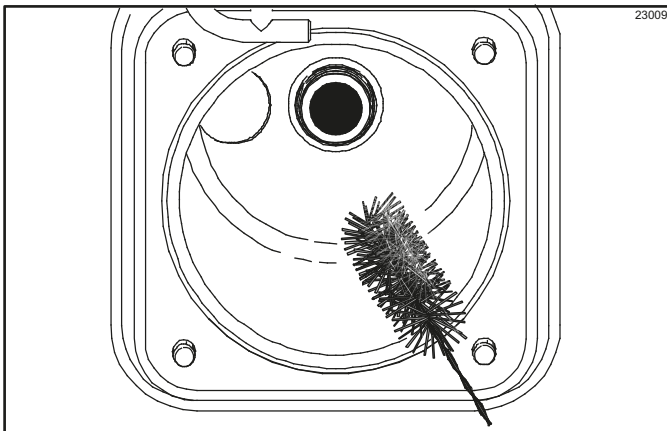

Figure 6-74
5. Return to the machine with a small amount of cleaning/sanitizing solution. Using the black brush, clean the rear shell bearings at the back of the freezing cylinder. (See Figure 6-74.)